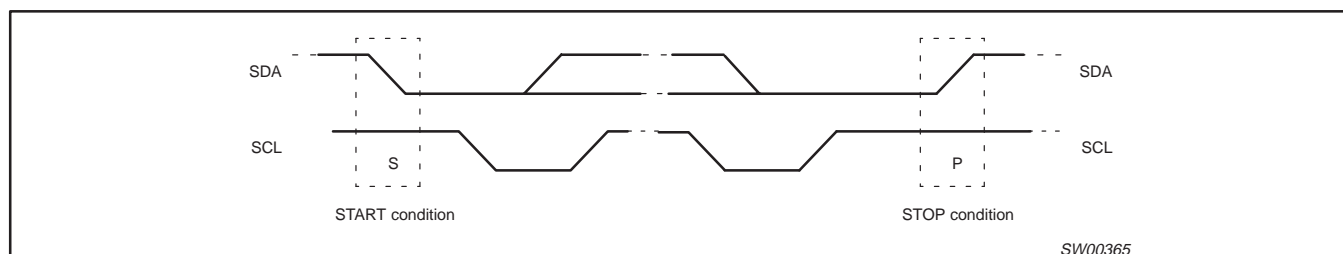

Figure 9. Definition of start and stop conditions
Both data and clock lines remain HIGH when the bus is not busy. A HIGH-to-LOW transition of the data line, while the clock is HIGH is defined as the start condition (S). A LOW-to-HIGH transition of the data line while the clock is HIGH is defined as the stop condition (P) (see Figure 9).